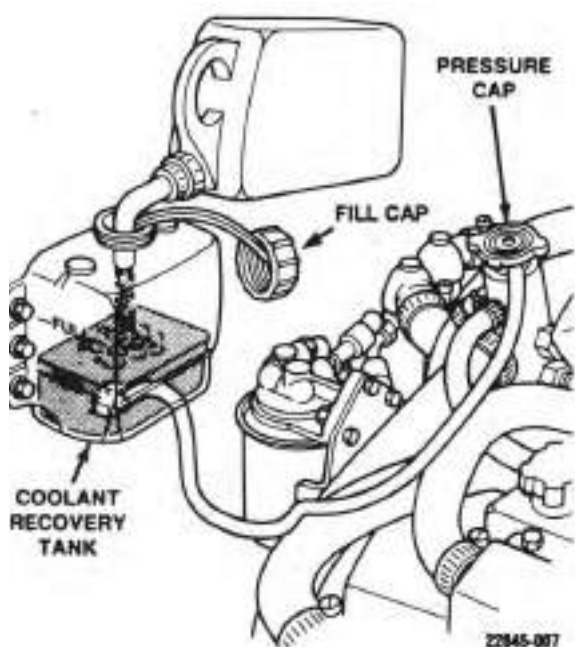

Figure 5-2 – Checking Coolant Level
7. If your yacht has fresh water cooled engines, remove pressure cap from heat exchanger and check that coolant is up to neck of filler tube. (See **Figure 5-2.**) Refer to engine manual for information about coolant.